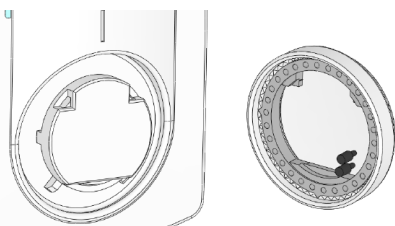

Fig. 3
- Remove the dial pins and put in the desired holes to limit the setting range of the thermostat. (Figure 3 et 4)